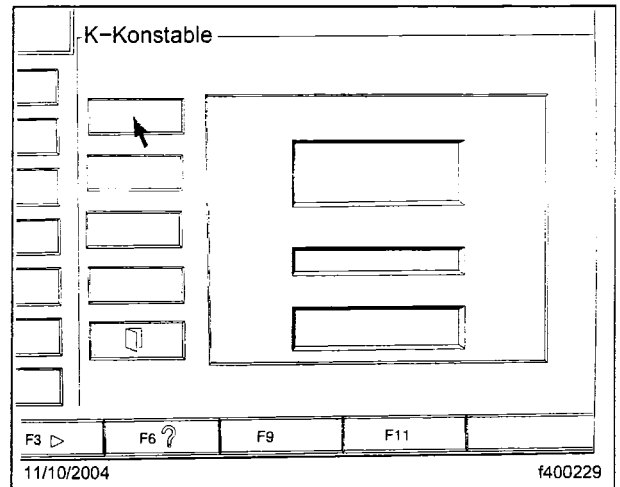

Fig. 8, Enter the K-Value
21. In the ENTER W-VALUE box, type in **8230**, press enter on the keyboard. See Fig. 8.